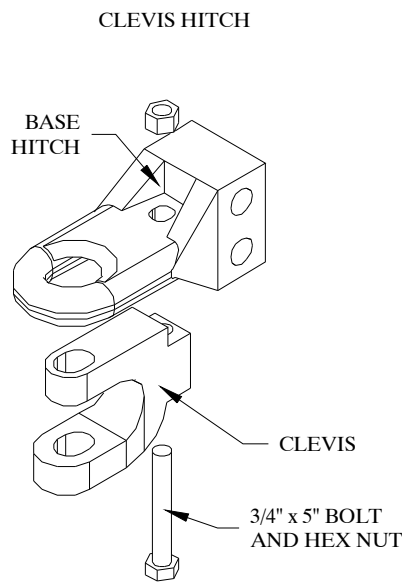
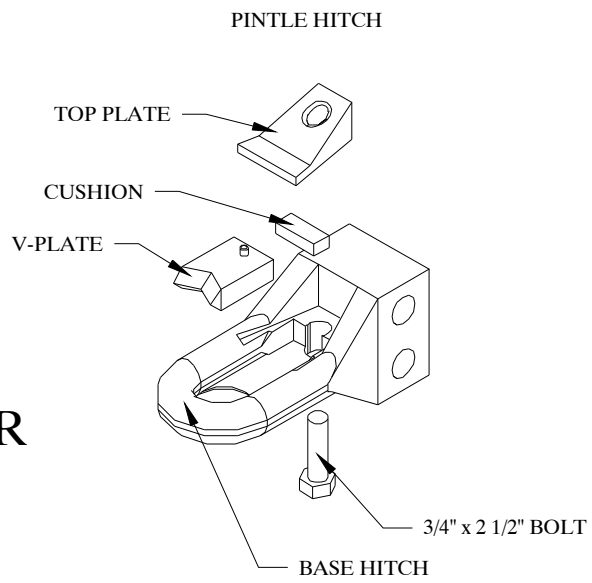

Figure 3
Figure 4
5. Assemble either a clevis hitch (Figure 3) or a pintle hitch (Figure 4) as required by the tractor or towing vehicle. Note the opposite orientation of the base hitch for each hitch type. Attach the hitch assembly to the A-frame with two 1" x 6 1/2" bolts and locking nuts.